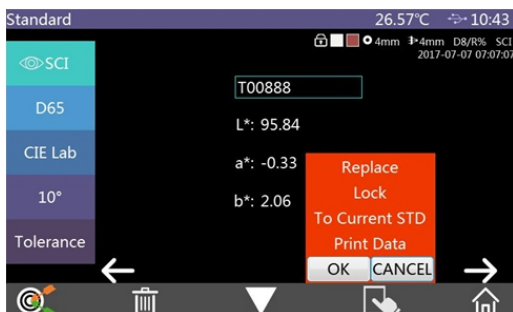

Figure 22 Printing Interface
5. Click  to select "Print Data" in the pop-up menu and click "Confirm" to start printing the sample chromaticity data, as shown in Figure 22:
Switch records by clicking \rightarrow or \leftarrow Switch among chromaticity data, reflectance curve and color index by clicking ∇ Click \square to replace, lock, to current STD, and print data as shown in figure 22.